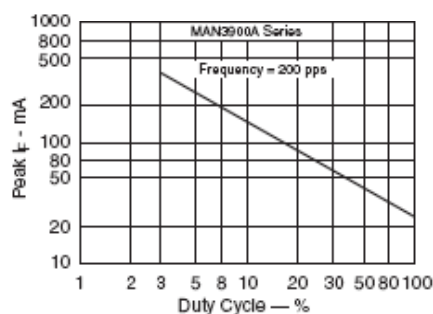

Fig. 3 Max Peak Current vs. Duty Cycle
2. The curve in Figure 3 is normalized to the brightness at 25°C to indicate the relative Luminous Intensity over the operating temperature range.